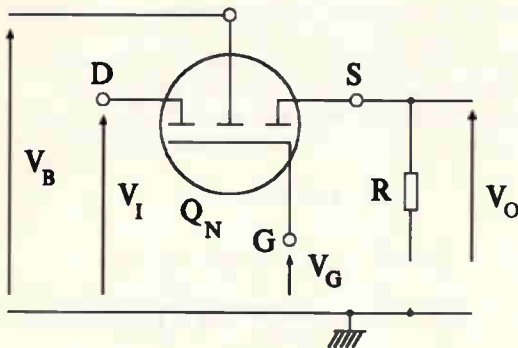

Fig. 3. Transmission gate using an n-channel enhancement-mode mosfet.
Figure 3 shows a single n-channel enhancement-mode mosfet used in the circuit of Fig. 1a). The electrode potentials are shown as dc quantities for
a) DC mosfet model for Q_N in Fig. 3.
If, in Fig. 3, V_G is connected to a negative bias source $-V_{GG}$, and if V_I is greater than $-(V_{GG} + V_{TN})$ then D_F and D_R in the model of Fig. 4a) are cut off and $I_F = I_R = I_D = 0$.
The transmission gate in Fig. 3 is cut off, its idealised equivalent circuit
Consider next what happens in Fig. 3 when V_G is $+V_{GG}$. Using the model of Fig. 4a) it is clear that D_F conducts while V_{GG} is greater than V_{TN} . But there are two cases to consider for D_R . One is that D_R is off when V_1 is greater than $V_{GG}-V_{TN}$ and the other is that it is on while V_1 is less than $V_{GG}-V_{TN}$.